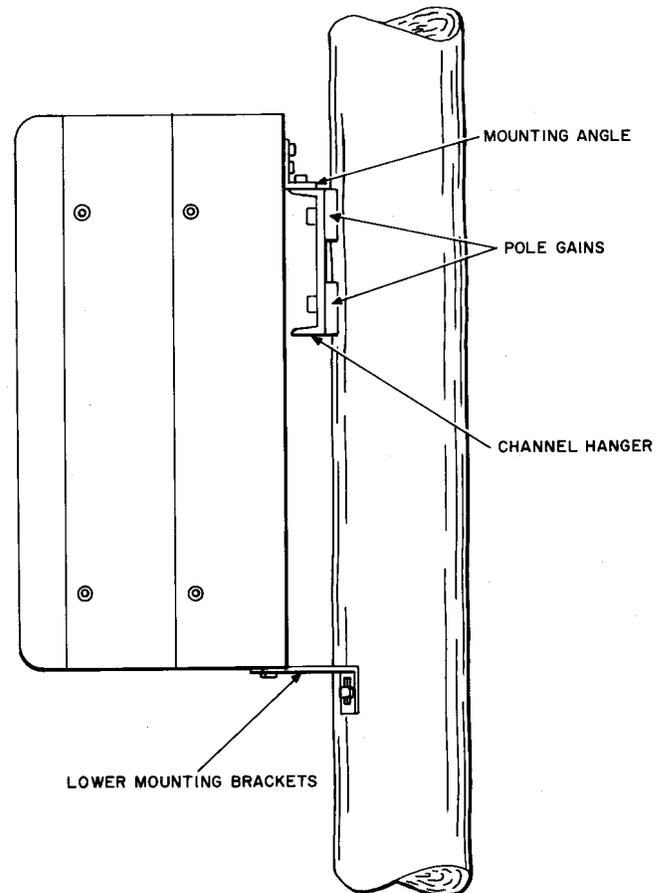

Fig. 16—Channel Hanger Mounting
6.12 Slowly raise the cabinet to the channel hanger, guiding it with handlines. Stop the winch when the mounting angle is above the channel hanger (see Fig. 16).
6.13 Attach the lower mounting brackets to the bottom of the cabinet so they are oriented downward as shown in Fig. 16. Using the slotted holes, turn the brackets toward the pole; estimate the correct length; and tighten the nuts.